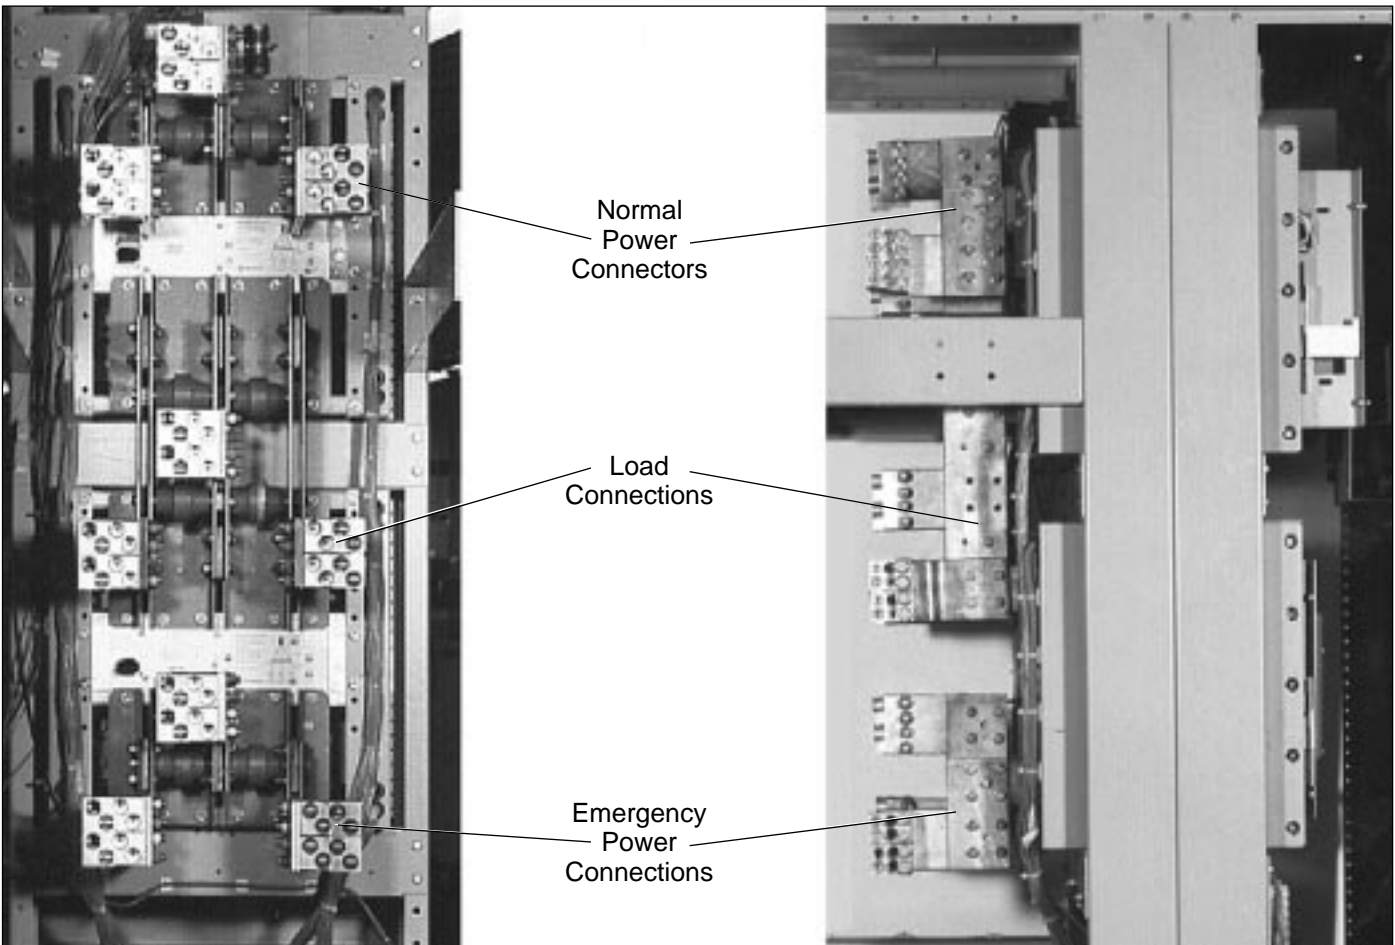

Figure 4-3 Side View and Rear View of Power Panel
- Step 5:** Carefully strip insulation from the power cables. Avoid nicking or ringing of the conductor strands. Prepare the stripped conductor termination end by cleaning it with a wire brush. If aluminum conductors are used, apply an appropriate joint compound to the clean conductor surface area. Refer to Figure 4-3 for approximate locations of power connections.